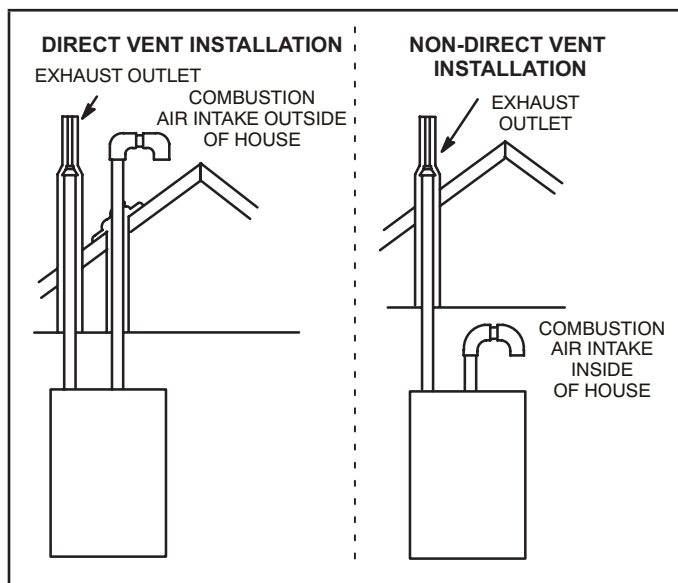
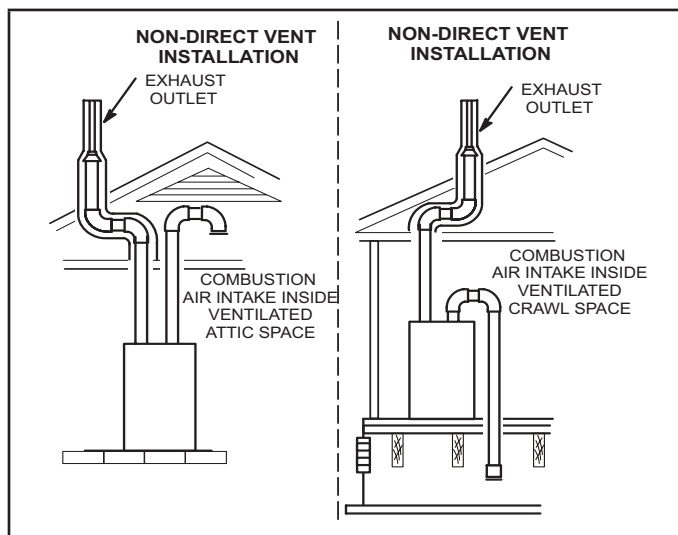

FIGURE 1
FIGURE 2
**NOTE - In Direct Vent installations, combustion air is taken from outdoors and flue gases are discharged outdoors. In Non-Direct Vent installations, combustion air is taken from indoors or ventilated attic or crawlspace and flue gases are discharged outdoors. See FIGURE 1 and FIGURE 2 for applications involving roof termination.**